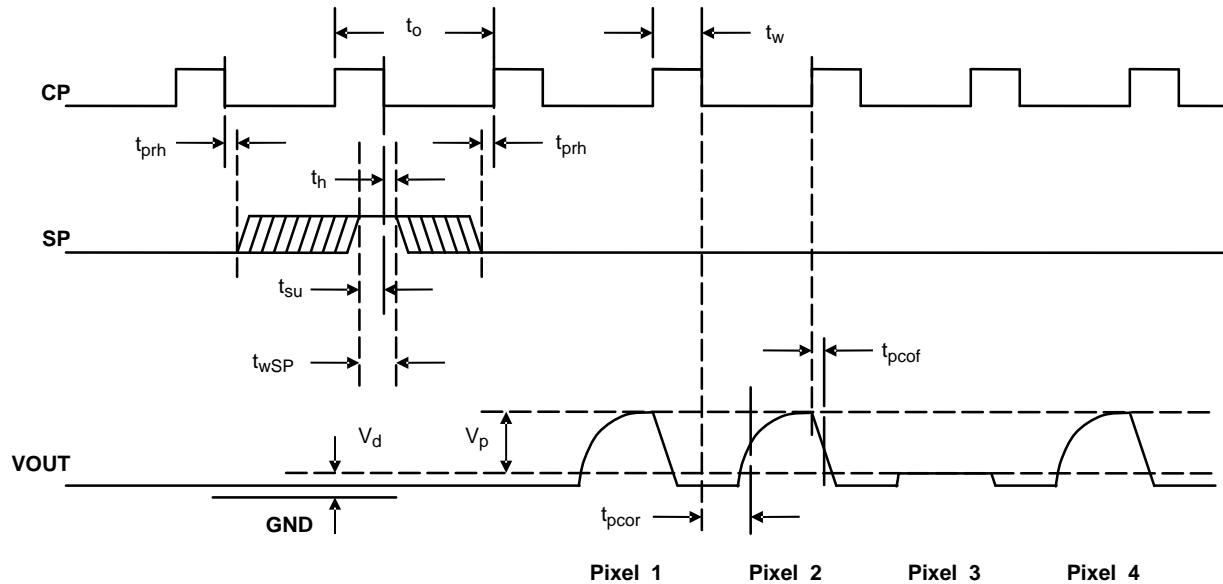

Figure 3. Timing Diagram
2. Refer to Figure 3 for more information on AC characteristics